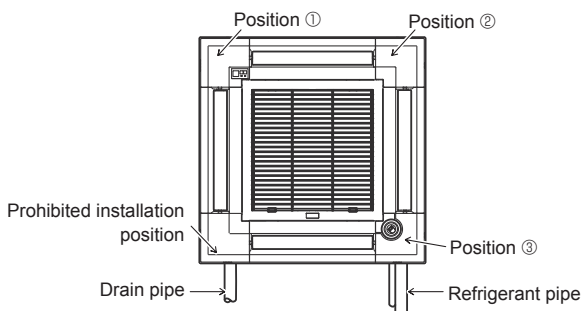

Fig. 9-11
The signal receiver corner panel can not be installed on the drain pipe side for the main unit. (Refer to Fig. 9-11)
- The i-see Sensor corner panel should be fixed onto the grille (1) with screw (3).
- \* If the position of the i-see Sensor was changed from default position (position 3) to the other position, change the function settings. (Refer to page 12 and Fig. 9-11)
- The i-see Sensor corner panel can not be installed on the drain pipe side for the main unit. (Refer to Fig. 9-11)